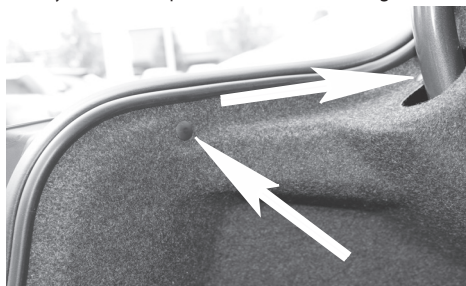

Figure 1
2. Open trunk and remove threshold by pulling up on it. Remove floor cover and set both items aside. On both sides carefully remove 3 clips on felt liner shown in Figures 1 & 2.